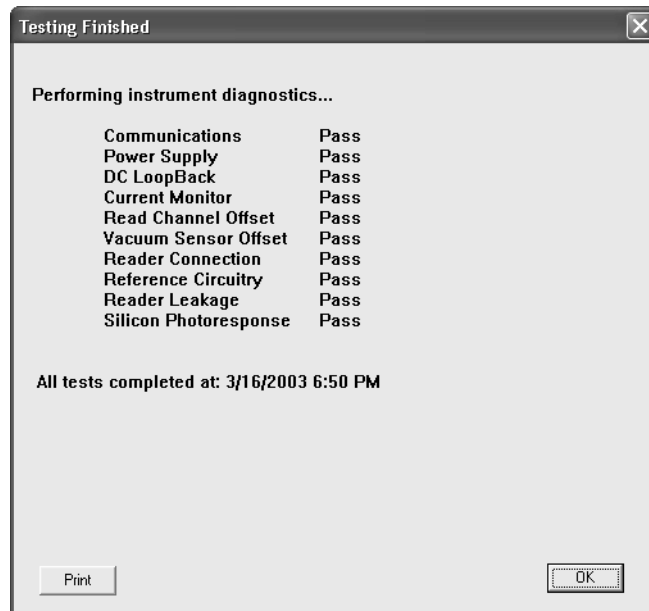

Figure 4-8: The Test Screen
- 2) The message “Performing instrument diagnostics...” is displayed with each test and results, “Pass” or “Fail” (Figure 4-8):